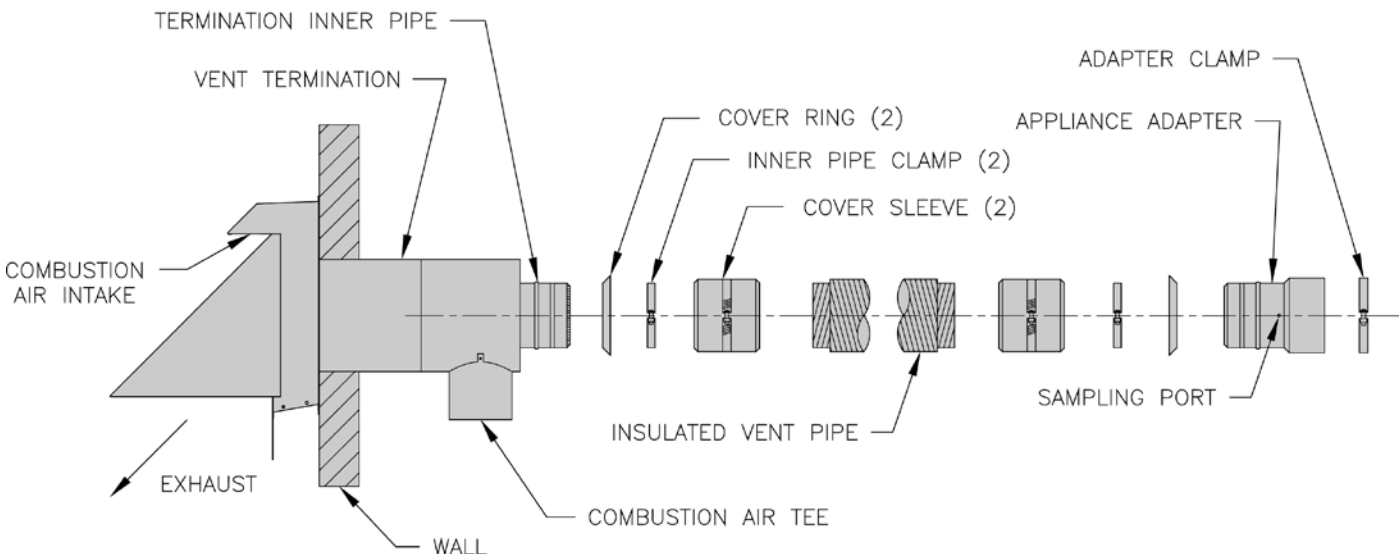

Figure 20: FDVS Component Breakdown
3. After completing assembly of the flexible double wall insulated vent pipe to the vent termination inner pipe (see Figure 20 and the following Steps), apply the supplied high temperature sealant to seal around the inner pipe protrusion thru the vent tee cover pan, around the joint between the vent tee collar and the vent tee body, and, seal or tape the joint between the vent termination outer pipe and the vent tee body.